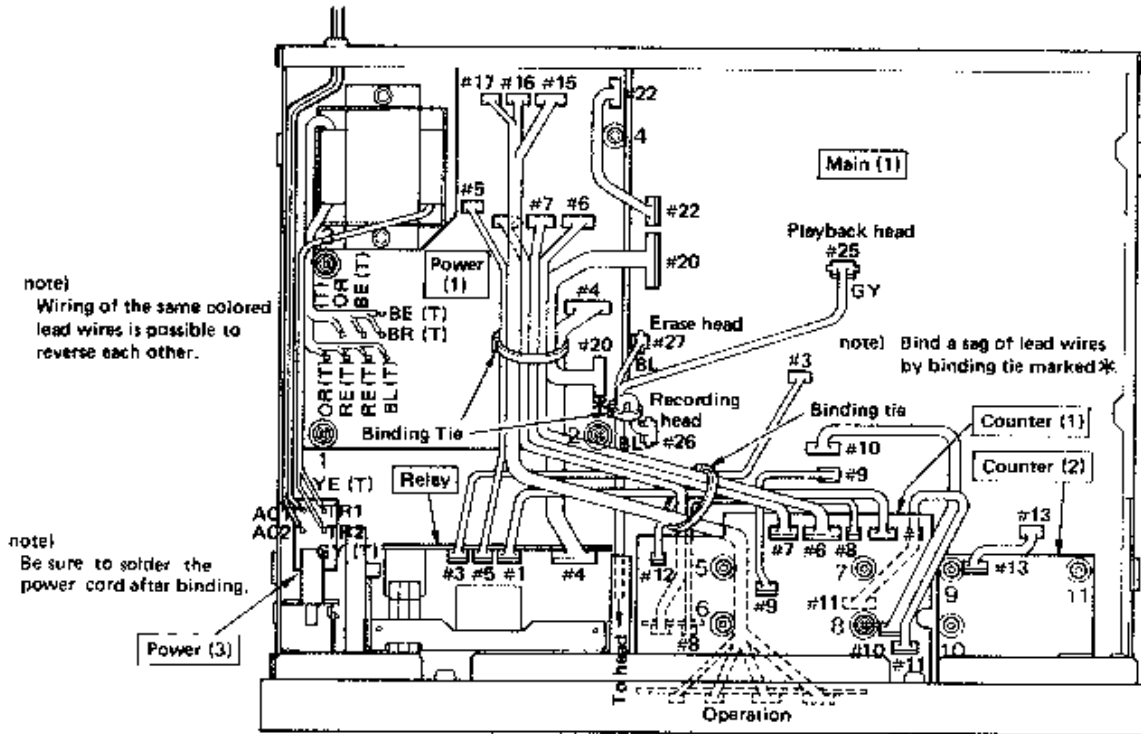

Fig. 15
- Disconnect the connectors (#1, #3, #4 and #6) connected to the relay circuit board. (Refer to fig. 15)
- Disconnect the head lead wire connectors (#25, #26 and #27). (Refer to fig. 15).
- Remove screws ① through ③ and plastic rivet 4 in fig. 15 and then remove the power circuit board (1). In this way, you can replace the parts.
2. Counter circuit board (1) removal
Remove plastic rivets ④ through ⑦ and screw ⑧ in fig. 15 and then pull out the counter circuit board (1) by sliding it backward.
3. Counter circuit board (2) removal
Remove plastic rivets ⑨ through ⑪ in fig. 15 and then pull out the counter circuit board (2) by sliding it backward.